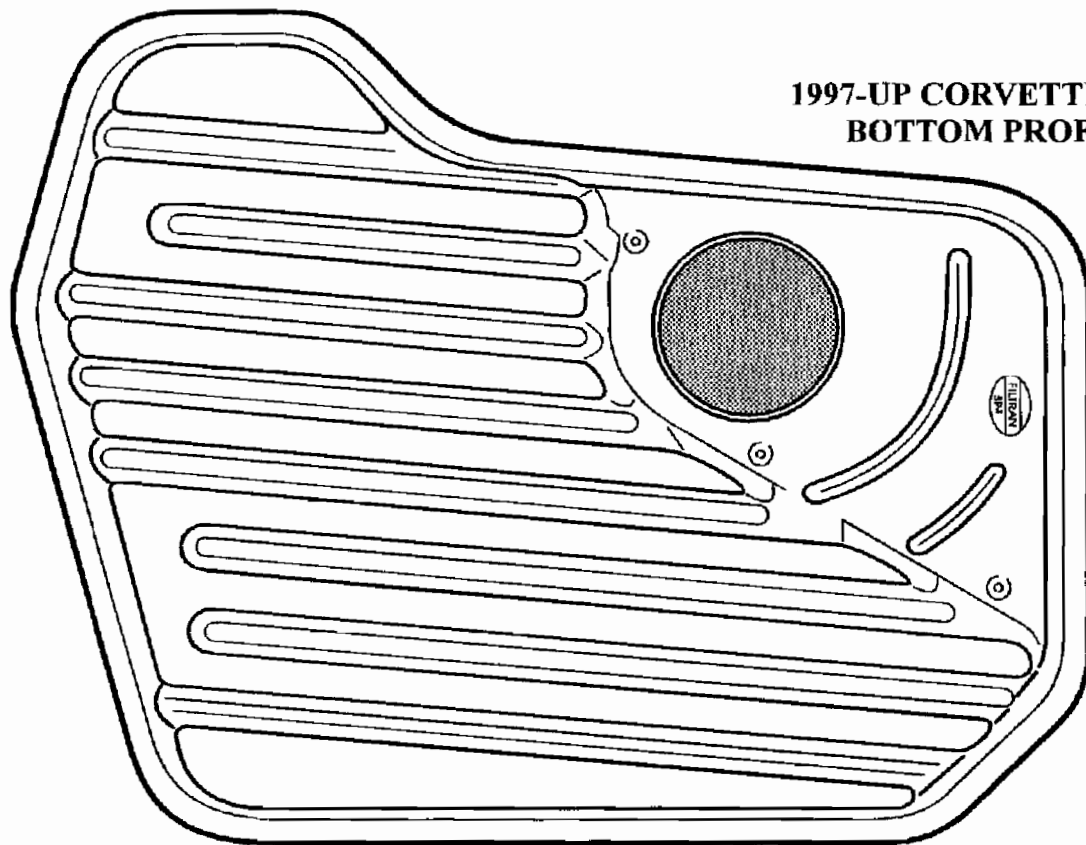

Figure 1
- (2) **BOTTOM PAN FILTER** - There are now three different filters for the 1998 model year. The bottom profile of the filters are all the same as shown in Figure 1. The side profiles however are different as the "Deep" pan requires the filter with the longer neck, the "Regular" pan requires the filter with the shorter neck, and the 97-up Corvette requires the filter with the added extension on the bottom. Refer to Figure 2.
Bottom pan filters must be used with the correct design level bottom pans and must be used on the models that they were intended for, as shown in Figures 1, 2, and 3.